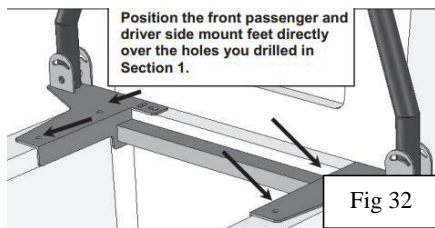

Fig 32
2. Set the front driver and passenger mounting feet back on the truck directly over the mounting holes drilled into the truck bedrail in STEP 1. (Fig 32)